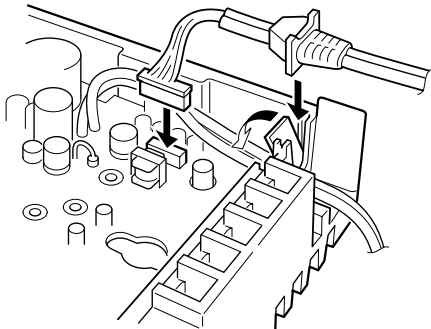

Fig. 2
- ③ Insert the connector as shown below. (Fig. 2)